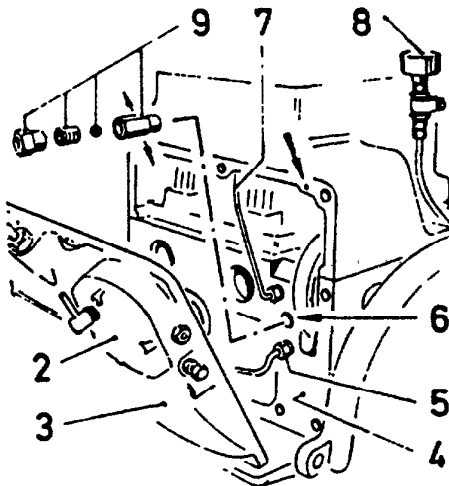

Fig 72
2. Unscrew engine oil pressure gauge (fig 72, item 8) or the oil pressure gauge pipe (to the instrument panel).
3. Using a 22 mm box spanner through the plug aperture (2), unscrew the relief valve (fig 72, item 9). Dismantle the spring sleeve (1/4" socket spanner) and wash components in fuel oil or kerosine. If the valve seat shows any sign of damage, the valve should be renewed
1. Close fuel cock, disconnect pipes from lift pump, filter and injection pumps. Remove crankcase cover without further dismantling (fig 72, page 50).